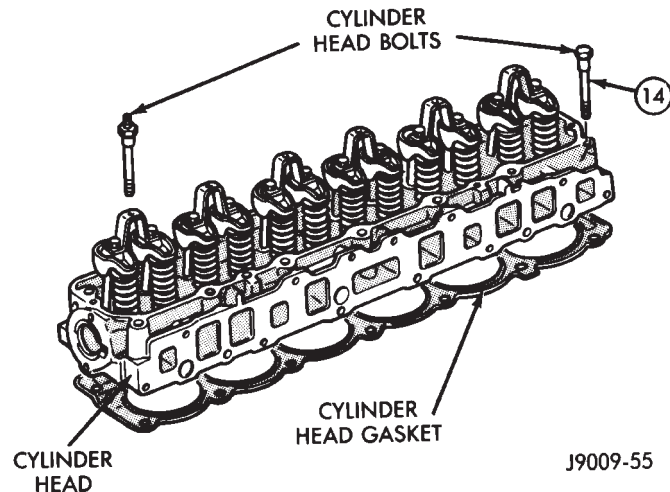

Fig. 35 Engine Cylinder Head Assembly
- (8) If equipped with air conditioning, perform the following:
- (9) If equipped, disconnect the power steering pump bracket. Set the pump and bracket aside. **DO NOT** disconnect the hoses.
- (10) Perform the Fuel System Pressure Release procedure (refer to Group 14, Fuel System).
- (11) Remove the fuel lines and vacuum advance hose.
- (12) Remove the intake and engine exhaust manifolds from the engine cylinder head (refer to Group 11, Exhaust System and Intake Manifold for the proper procedures).
- (13) Disconnect the ignition wires and remove the spark plugs.
- (14) Remove the ignition coil and bracket assembly.
- (15) Remove the engine cylinder head bolts. Bolt No.14 cannot be removed until the head is moved forward (Fig. 35). Pull bolt No.14 out as far as it will go
(16) Remove the engine cylinder head and gasket (Fig. 35).
(17) If this was the first time the bolts were removed, put a paint dab on the top of the bolt. If the bolts have a paint dab on the top of the bolt or it isn't known if they were used before, discard the bolts.
(18) Stuff clean lint free shop towels into the cylinder bores.